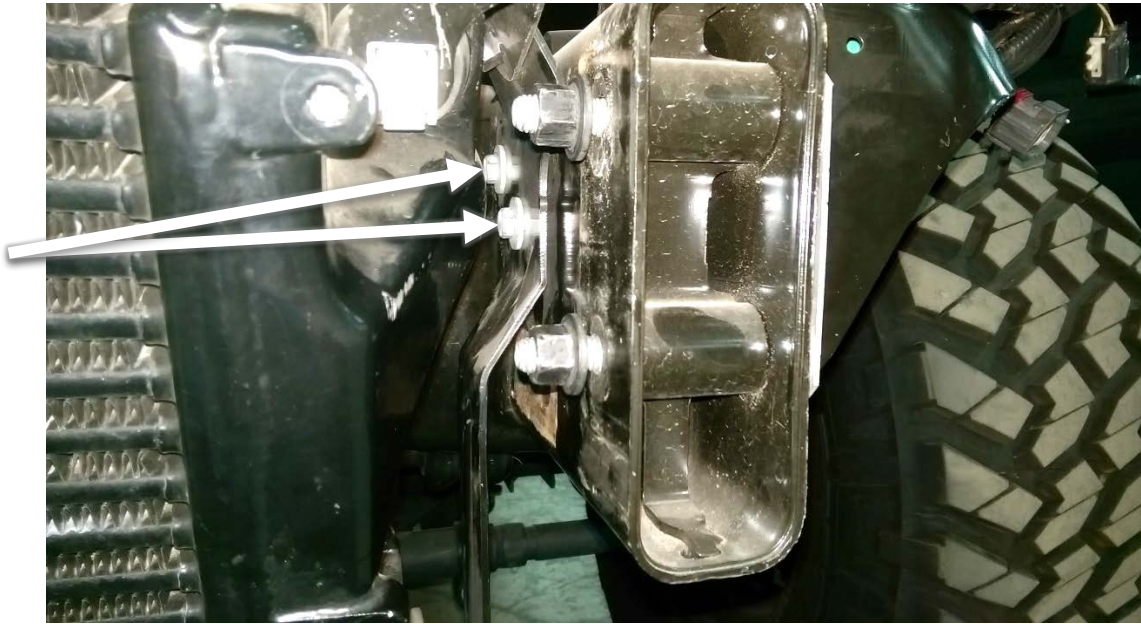

Figure 5a (INTERCOOLER BRACKETS)
- E. Remove the intercooler by loosening the hose clamps on the two tubes and removing the intercooler supporting brackets. The brackets have two fasteners attaching it to the frame on either side (Ref. Figure 5a-b-c-d). Also remove the intercooler shroud held on the front by four 10mm fasteners.